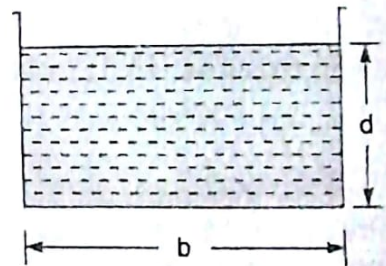

Fig. 16.9 Rectangular channel
**16.5.1 Most Economical Rectangular Channel.** The condition for most economical section, is that for a given area, the perimeter should be minimum. Consider a rectangular channel as shown in Fig. 16.9